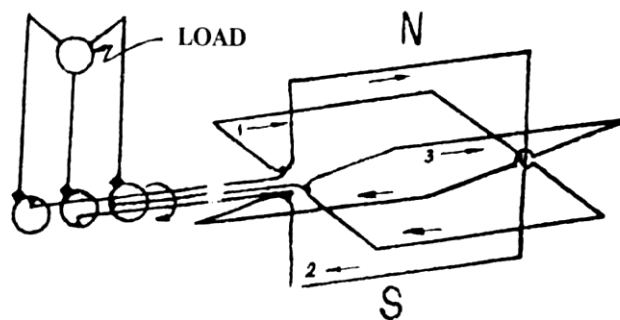

Fig. 9 Diagram of three-phase revolving armature generator
Compare this diagram with the single-phase diagram. As a rule, the end of each phase winding is not brought out to a separate slip ring, but the windings are connected together inside of the machine and only three leads are brought out as shown in Fig. 9.
4. Look at Fig. 9 and describe it.